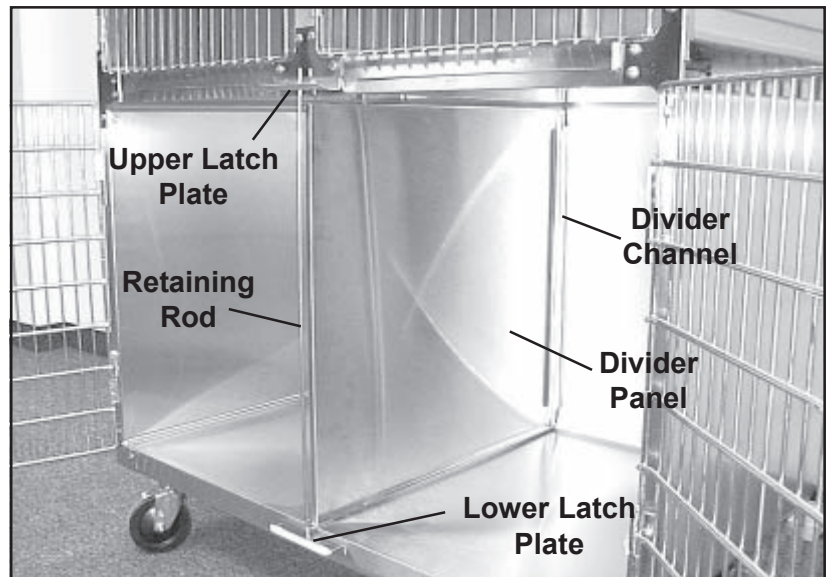

Figure 53. Installing the Divider Panel
2. Slide the divider panel into the cage and engage it into the divider channel at the rear of the cage (Figure 53).